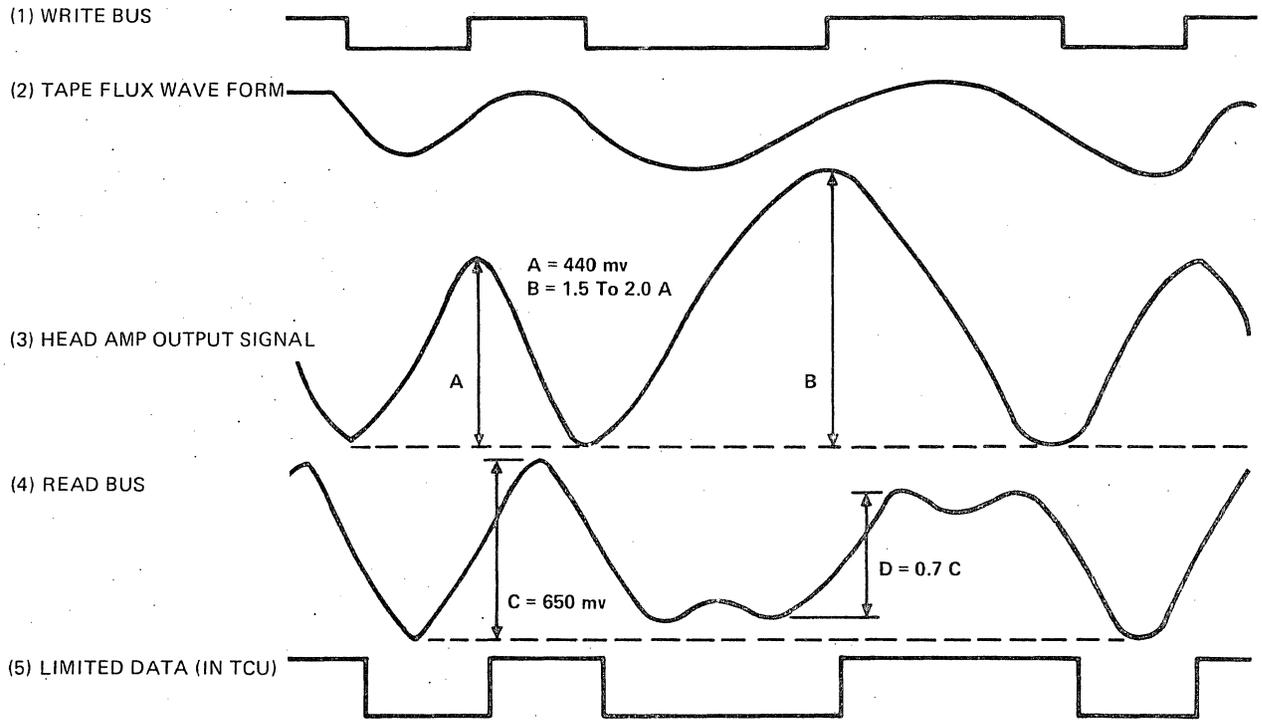

Figure 4-13. Phase Encoded Read Signal Waveforms
Figures 4-13 and 4-14 illustrate the transformation a signal undergoes from the time it leaves the WRITE BUS until it is received in the TCU after a read operation.
- o PHASE ENCODED -- See Figure 4-13